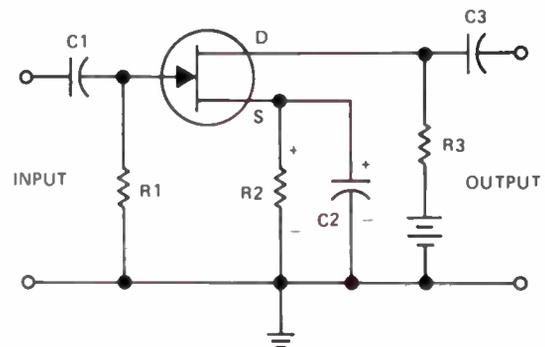
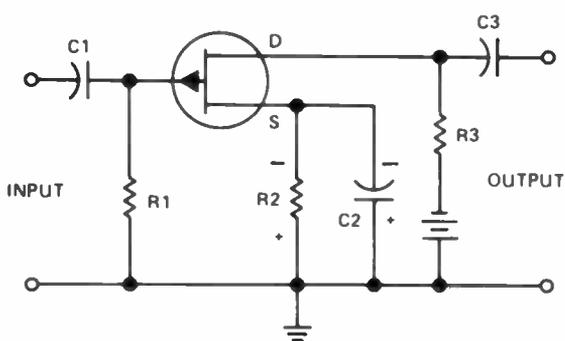

Figure 21. Schematic diagram of an amplifier using an n-channel JFET.
Figure 23. Schematic diagram of an amplifier using a p-channel JFET.
**N-Channel JFETs.** Figure 21 shows a schematic diagram of an n-channel JFET amplifier. With no signal applied to the input, electrons flow from the battery, through R2 to the source of the JFET, through the channel to the drain, through R3, and back to the battery. R2 has a voltage drop of the polarity shown. Notice that the end of the resistor connected to the source is positive with respect to ground. This means that the source is positive with respect to ground. In a typical amplifier, the value of R2 would be selected so that the voltage drop across it is about 1 volt. If the battery is a 9 V battery, and we select a value of R3 so that the voltage drop across it would be 4 V, the polarity between the source and
**P-Channel JFETs.** In Fig.23 we've shown a schematic diagram similar to the one shown in Fig.21, but this time we've used a p-channel JFET. Remember that in a p-channel transistor, conduction through the transistor occurs by means of holes.